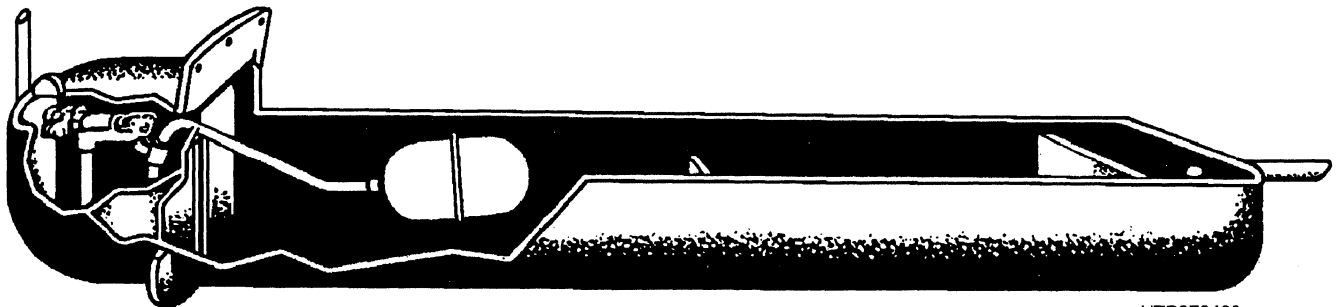

Figure 4-36.—Cutaway view of a typical humidifier.
**Humidifiers.**—Humidifiers used with forced warm-air heating systems are usually of the pan type shown in figure 4-36. Unless the water is relatively free of solids, these humidifiers require frequent attention, since the float may stick in the OPEN position or the valve may clog. Overflowing of the pan may result in a cracked heating section, and a stopped-up inlet valve will make the humidifier inoperative.